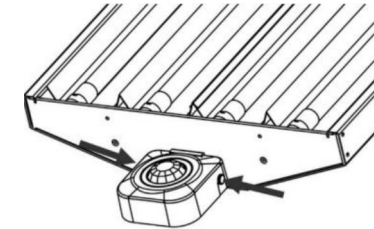

Fig.4A
- 1.Press down the two-sides buttons simultaneously, and extract out the main part of sensor switch. (Fig.4A and Fig.4 B)